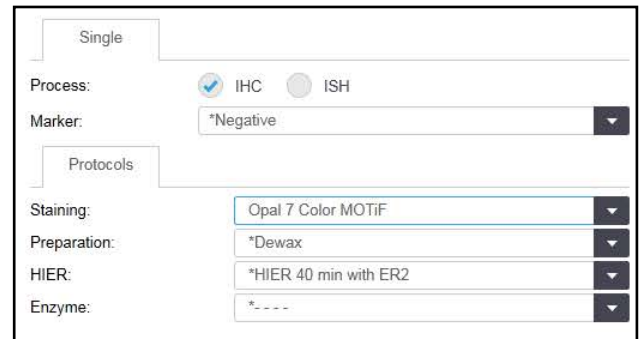

Figure 1. Protocol settings on BOND RX.
- When setting up the BOND RX Study Protocol, select the following listed settings for Preparation and HIER (see Figure 1).